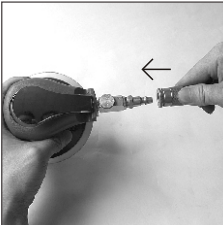

Figure 2
5. Remove the air cap from the tool air inlet and connect the air supply hose to the tool. Set the air pressure at 90 PSI. (See Figure 2)